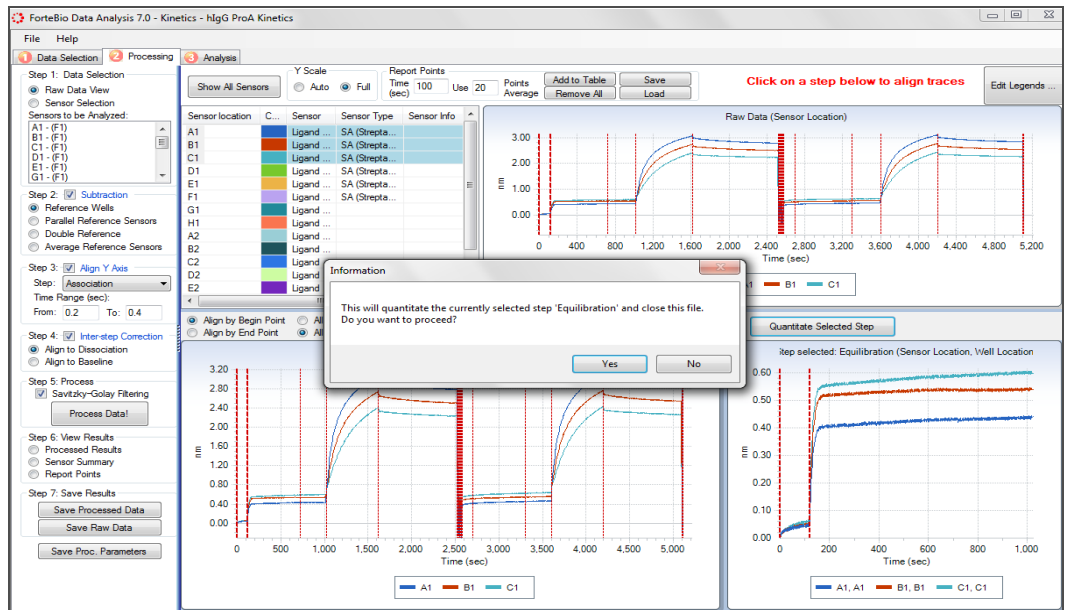

Figure 5-14: Processing Window—Raw Data View—Quantitating a Selected Step
1. In the Raw Data view, select the step to quantitate and click **Quantitate Selected Step** (Figure 5-14).